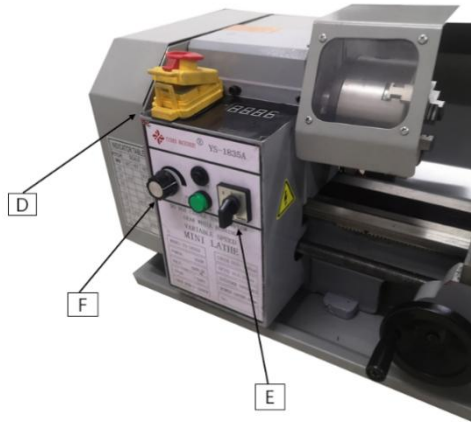

Fig. 9
1. Emergency Button: ON/OFF Switch (D, Fig. 9)
2. Change-over Switch (E, Fig. 9)
3. Variable Speed Control Switch (F, Fig. 9)